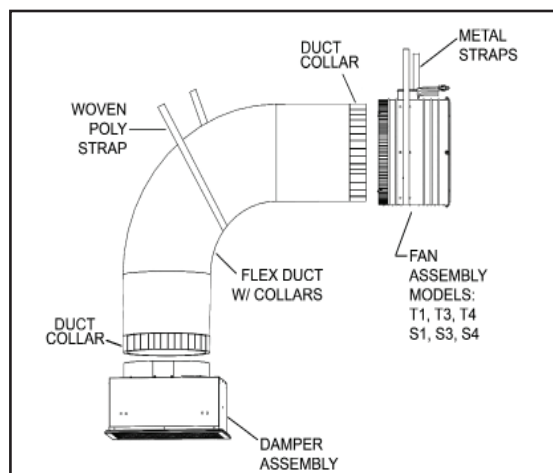

FIGURE 3A: FLEX DUCT TO FAN ASSEMBLY CONNECTION (MODELS: S3 and S4)
- Refer to Figures 3A and 3B for Flex Duct to Fan Assembly Connection. Some models include a transition cone to be installed on the inlet side of the fan assembly BEFORE mating the flex duct to the fan assembly. Summit Models S2 and S5 require the transition cone. The transition cone is shipped loose with the flex duct and in the same box as the flex duct and fan assembly.